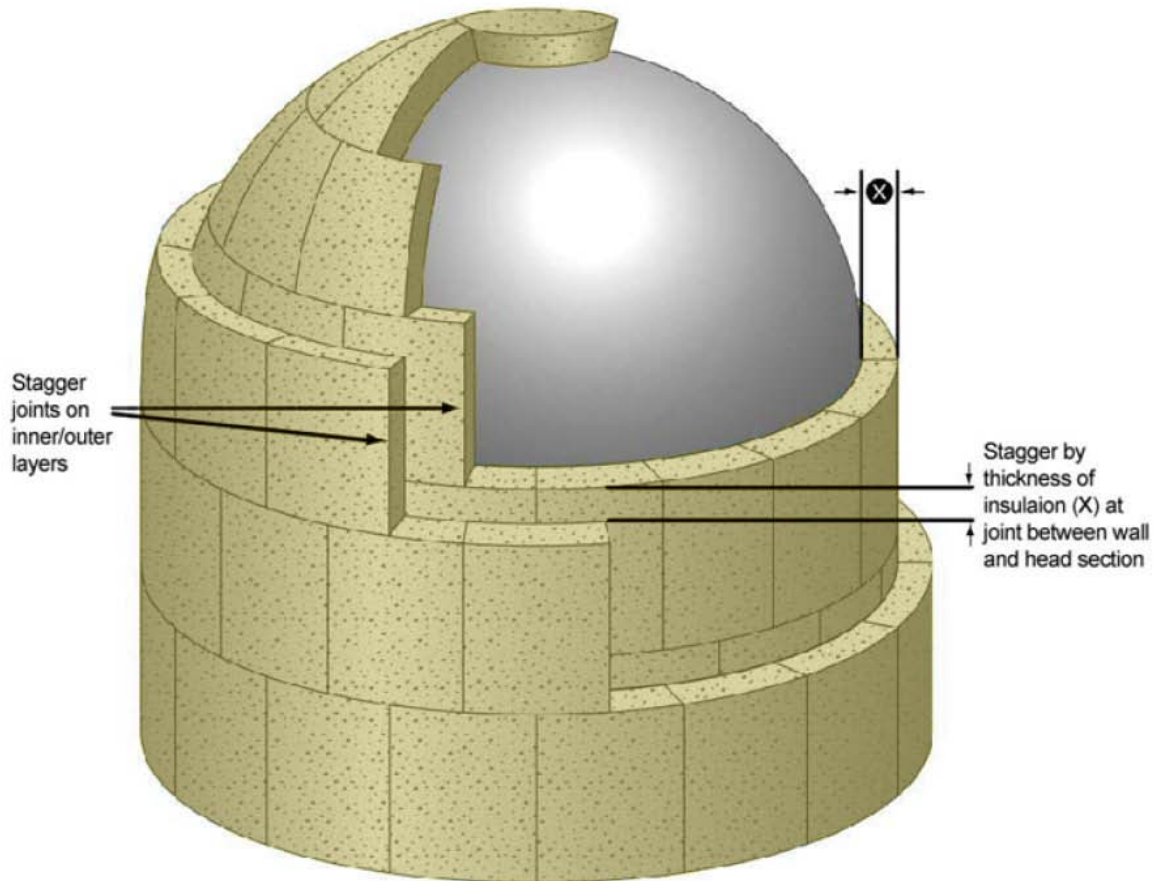

Figure 8
- 4.3.6 In multi layer applications, the horizontal and vertical joints of the inner and outer layer curved segments shall be staggered (see Figure 8 in Appendix B).